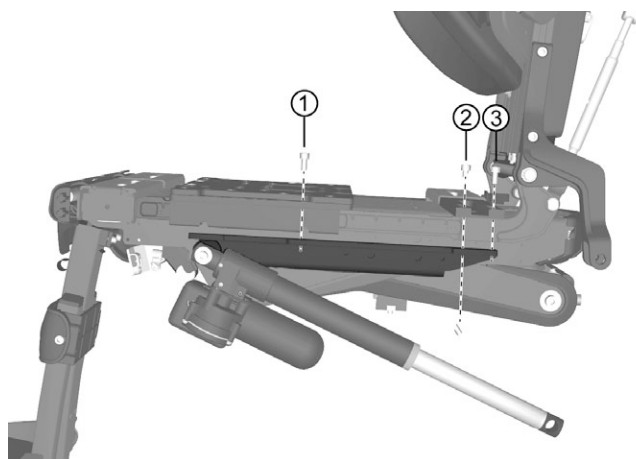

Figure 217. Assembly of the screws (1), (2) and (3).
4. Fit the actuator bracket on to the seat frame using the screw (2) with bushing (4). See fig. 217.
5. Fit the screw (1) at the front. See fig. 217.